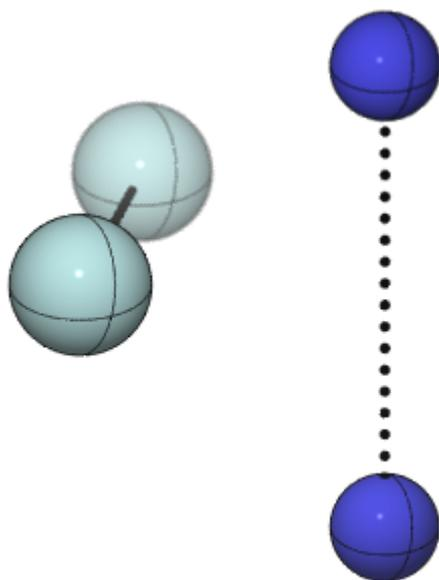

Figure 5.3.2: The global minimum of He2Ne2.
Step 4: Check the output file `mol.out`, it seems that structure 3 is the most stable one, shown in Figure 5.3.2.